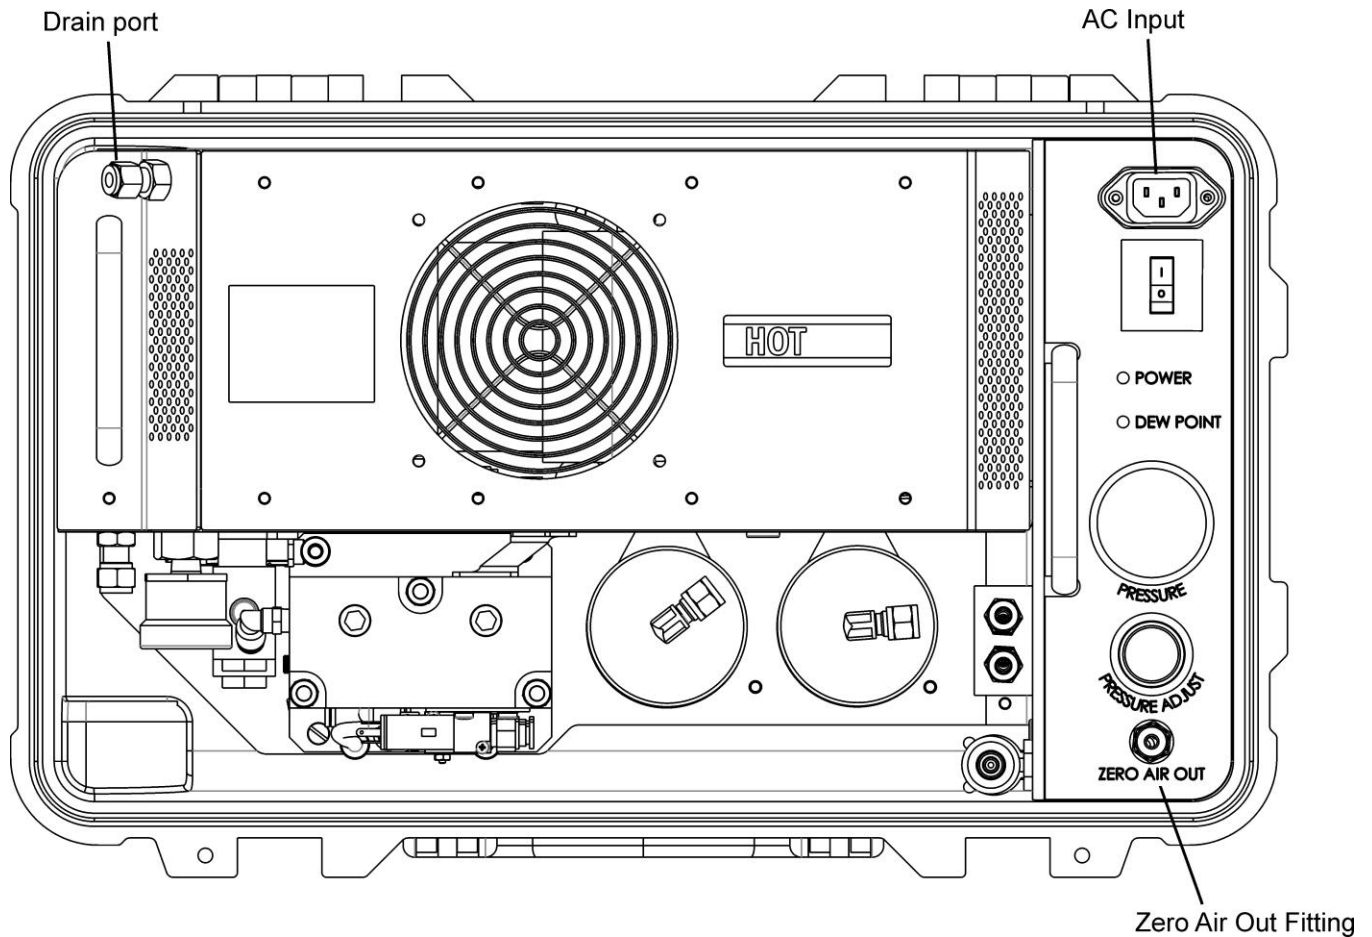

Figure 3-1: 751H Startup Connections
Figure 3-1 shows the components in the Model 751H instrument layout that are pertinent to starting up the instrument.
1. Turn on the instrument panel POWER SWITCH (Figure 3-1).